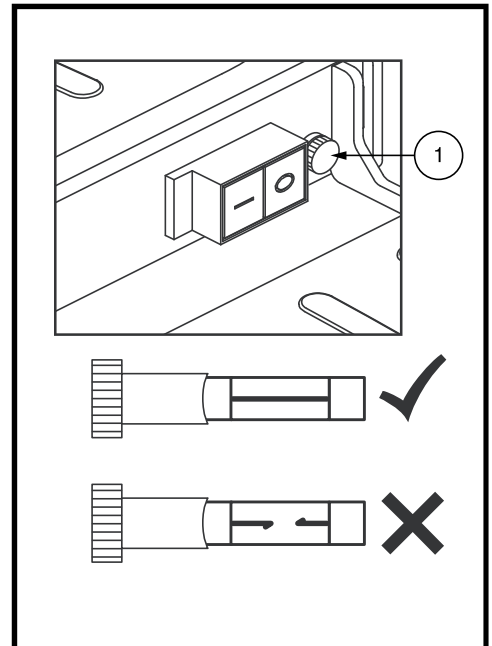

Figure 18. Fuse Replacement
2. Examine the fuse in the fuse holder. See **figure 18**. If the fuse is blown, it needs to be replaced.